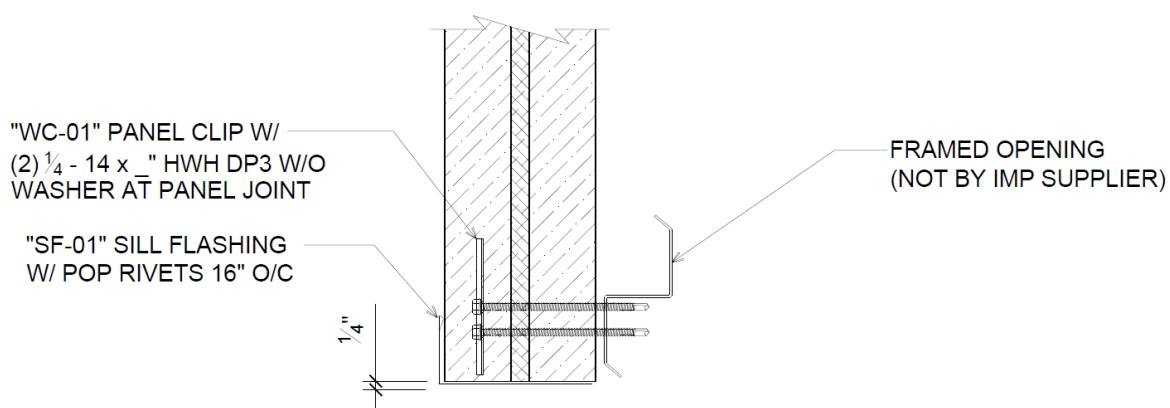
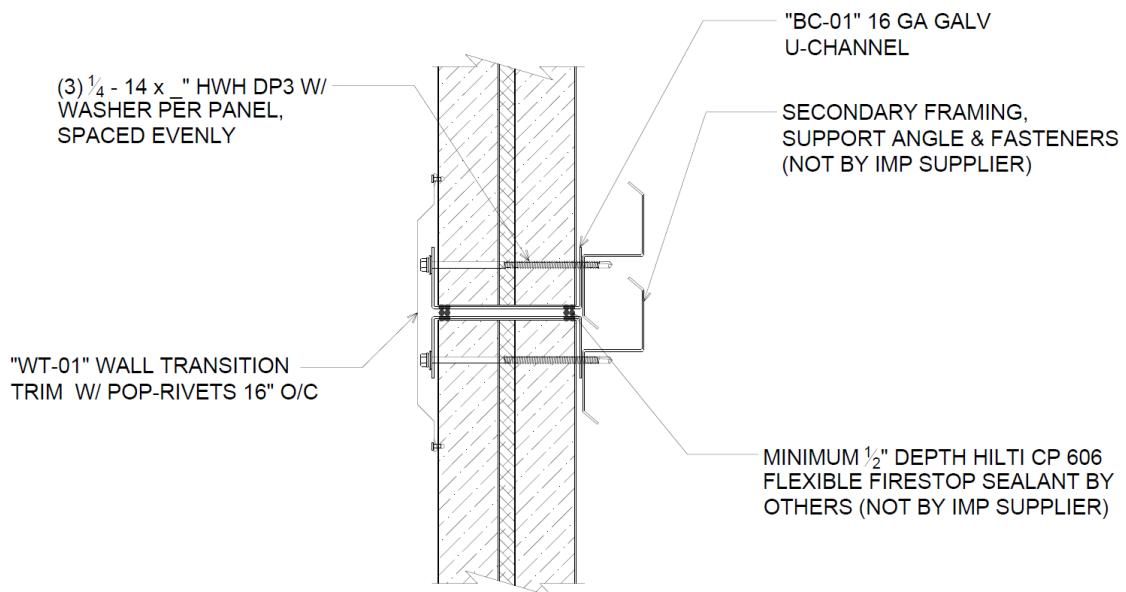

Figure 2A - Framed Opening Header
Figure 2D - Stack Joint
Panels are installed vertically to the exterior side of the supporting wall with min. conditions as follows: 2 in. x 2 in. x 2 in., No. 26 GA Z-girts are attached horizontally to the supporting wall, spaced as required by the design but no greater than 92 in. on center (oc). The panels are attached with clips, shown in Figure 2A, attached through the panel joints to the Z-girts with TEK 3, TEK 4, or TEK 5 fasteners (1/4-14
diameter; length varies per panel thickness). Stacked joints are assembled as shown in Figure 2D. Panel terminations are held in place with cap trim using pop rivets every 12 in. oc. Use 6 in. wide 26 GA CT-01 Cap Trim, 8 in. x 3 in. 26 GA SF-01 Sill Trim, 2 in. 26 GA BT-04 Fascia Trim, and 6 in. 26 GA BF-01 Zee Flashing, according to the requirements of the design. Trim components are provided by AWIP. See Figures 2A through 2E for typical details.
- 3. OPENINGS:** Fasten No. 26 GA steel sill flashing around the perimeter of the opening using pop rivets every 16 in. oc. See Figures 2A, 2B, and 2C for details.